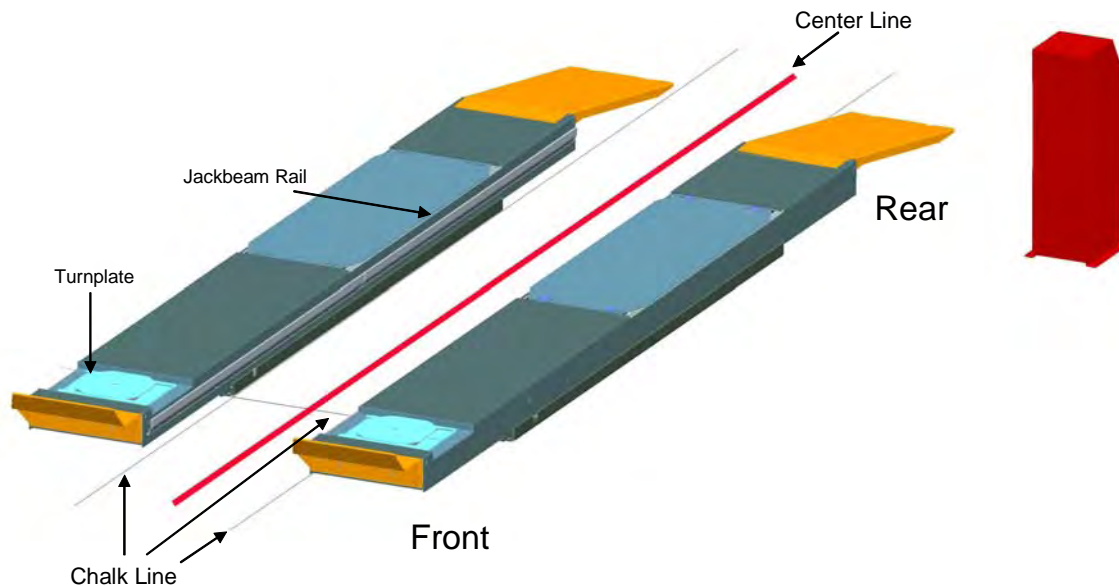

Figure 6 – Runway Locations
4. **BLEED THE SYSTEM:** Once the lift is placed on the last safety position, remove the polytube return lines, at the Tee fitting (**Figure 6**) and place them into a funnel over the reservoir. Press the bypass button until a clear stream of oil is flowing from the return lines. Release the bypass button and wait for 5 -10 seconds and continue to bleed. Repeat this “wait and bleed” procedure 5 times or until air is no longer visible in the return lines. Connect polytube lines back to the Tee fitting.